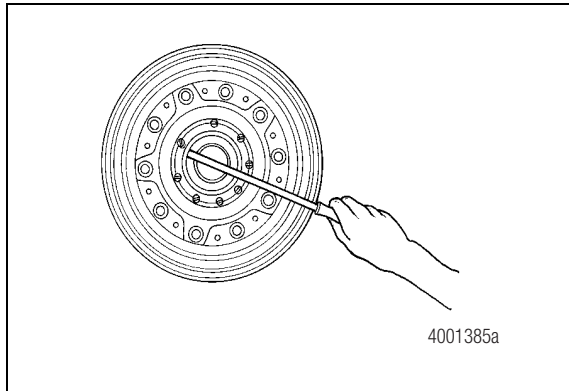

Figure 3.12
4. If necessary, use a long screwdriver to remove the oil seal from the hub. Discard the oil seal. Figure 3.12.